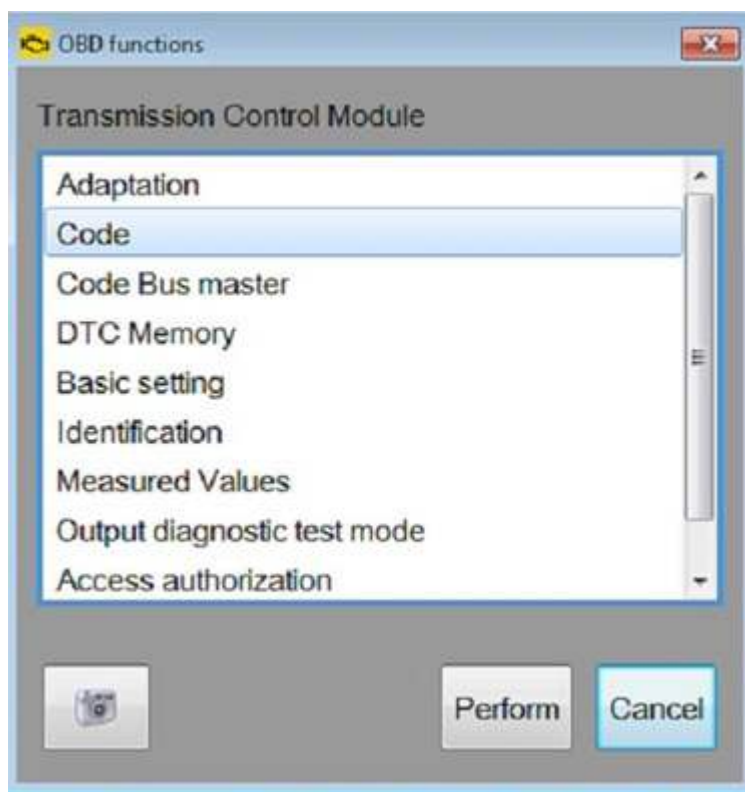

Figure 2. ODB functions menu
5. In the **OBD functions** menu (Figure 2), select "Code" then "Perform".